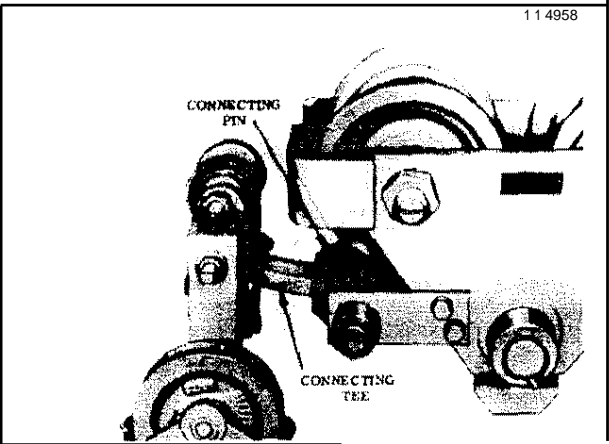

Figure 2-1. Connecting Track Clamp to HJ-CAP Trolley .
2-2. If Track Clamp is attached to hoist or trolley, separate by removing cotter pin and connecting pin from connecting tee (figure 2-1).
a. Remove cotter pin and connecting pin (Figure 2-1) from connecting tee and disconnect clamp from trolley or hoist.